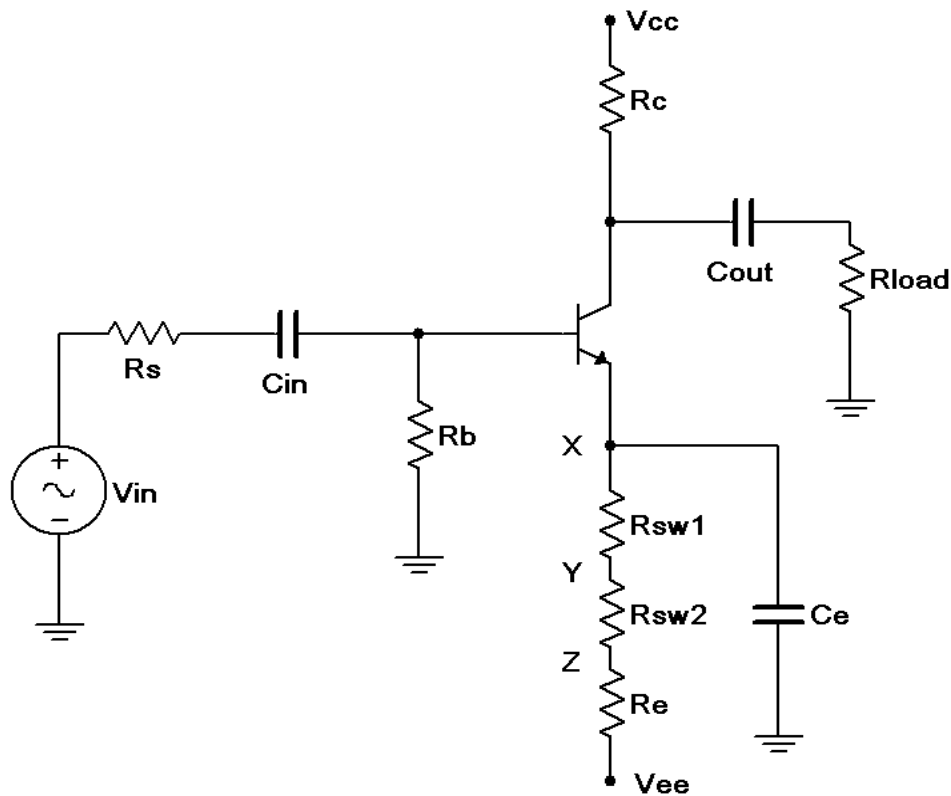

Figure 1
1. Consider the circuit of Figure 1 using $V_{cc} = 15$ volts, $V_{ee} = -12$ volts, $R_s = 10$ k Ω , $R_b = 33$ k Ω , $R_e = 22$ k Ω , $R_{sw1} = 220$ Ω , $R_{sw2} = 1$ k Ω , $R_c = 15$ k Ω , $R_{load} = 20$ k Ω , $C_{in} = C_{out} = 10$ μ F and $C_e = 470$ μ F. Using the approximation of a negligible DC base voltage, determine the DC collector current and r'_e , and record these in Table 1. Using the r'_e , calculate the expected Z_{in} , $Z_{in(base)}$, and A_v for the X, Y and Z connection points for C_e (shown at position X in the schematic). Record these in Table 2.
2. Build the circuit of Figure 1 using $V_{cc} = 15$ volts, $V_{ee} = -12$ volts, $R_s = 10$ k Ω , $R_b = 33$ k Ω , $R_e = 22$ k Ω , $R_{sw1} = 220$ Ω , $R_{sw2} = 1$ k Ω , $R_c = 15$ k Ω , $R_{load} = 20$ k Ω , $C_{in} = C_{out} = 10$ μ F and $C_e = 470$ μ F. Connect C_e to position X. Disconnect the signal source and check the DC transistor voltages to ensure that the circuit is biased correctly (note, the DC equivalent circuit is very similar to the ones used in the Emitter Bias Exercise and should exhibit similar DC voltage readings).